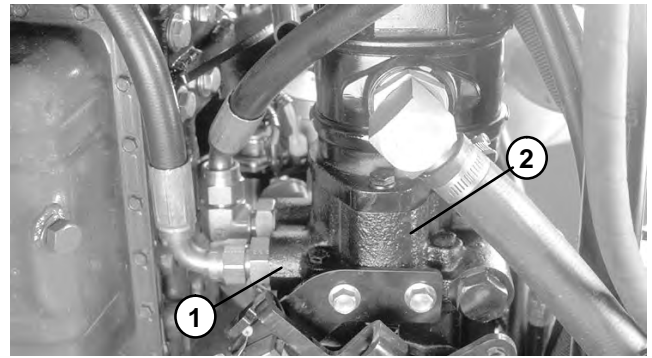

Figure 27
5. Disconnect hose from the lower hydraulic fitting on the engine side of the hydrostat (Fig. 27).